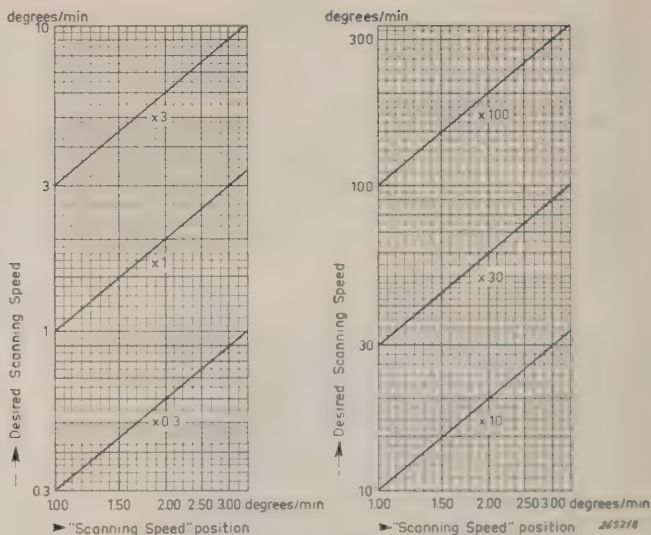
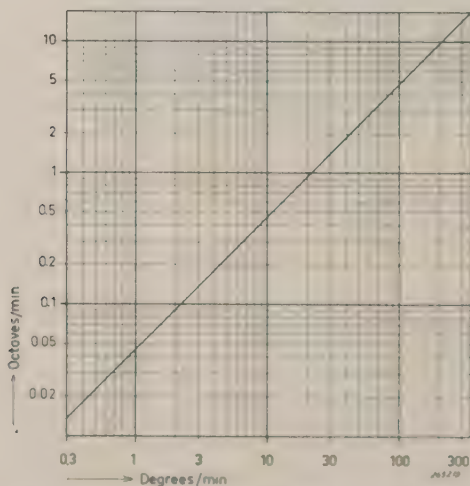

Fig. 5.3. Scanning speeds in degrees/minute given by the various combinations of SCANNING SPEED and SCANNING SPEED SELECTOR.
Fig. 5.4. Scanning speeds in degrees/minute converted into octaves/minute. Valid only for the 5-5000 Hz frequency range.
- c. From the curves in Fig. 5.3 can be found the position of SCANNING SPEED SELECTOR and SCANNING SPEED which give a speed nearest the calculated value S . Fig. 5.4 gives the relationship between Octaves/min. and Degrees/min. for cases when the scanning speed is specified in octaves/min.